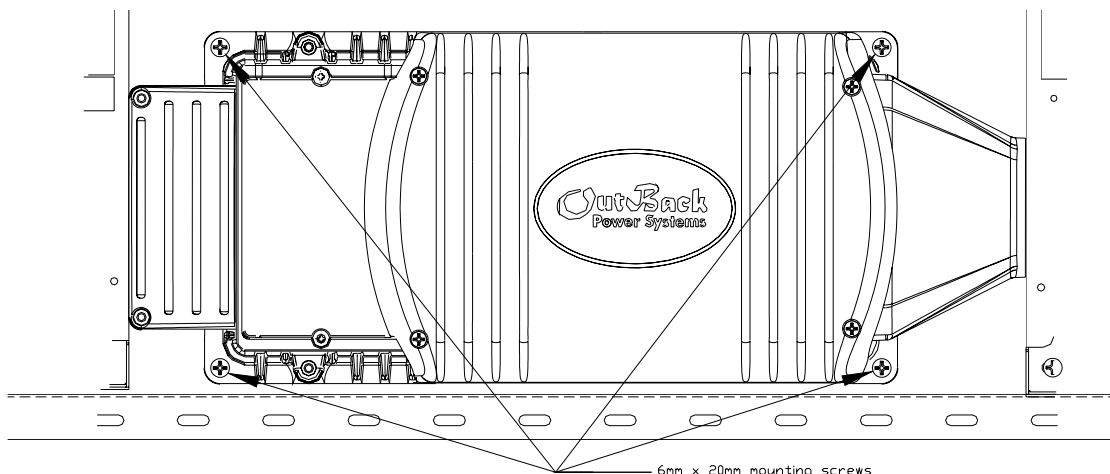

Figure 4 Use four (4) 6mm x 20mm Pan Head Philips TAPTITE® screws.
2. Mount the FX inverter(s) using four (4) 6mm x 20mm pan head Phillips TAPTITE® screws (all hardware is provided in the hardware pack). For illustration see Figure 4. Once again, at least one screw must have a star washer to insure it bites through the powder coating. This is your equipment bonding and meets NEC code requirements for equipment bonding. Use four star washers for improved lightning protection.
3. Do not install the large FX DCC cover at this time. Figure 4 shows FX with cover installed.